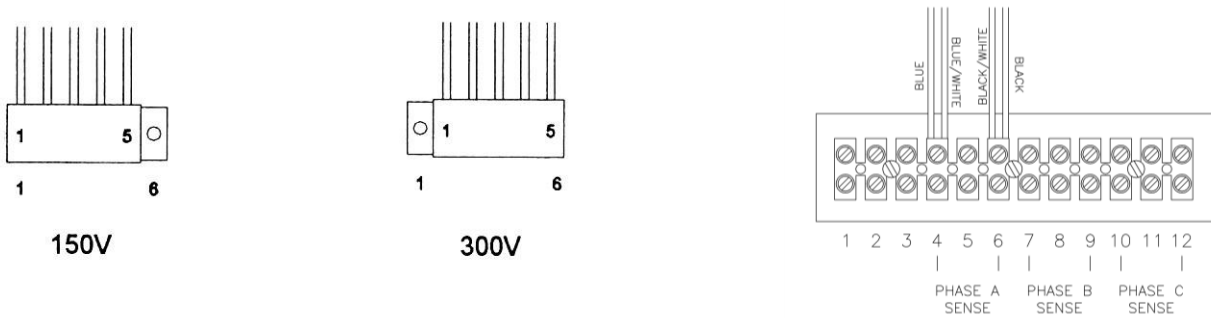

Figure 3
Connect VOLTAGE FEEDBACK SIGNAL sense channels to terminal strip as follows (Figure 3 or 4): Sense channel Phase A to positions 4 and 6, and if three phase option is used, sense channel Phase B to positions 7 and 9 and sense channel Phase C to positions 10 and 12 (#14 Awg wires max.).
If the 150 or 300 voltage range is selected, the blue/white and black/white leads from the sense transformers must be configured for each transformer respectively (see figure 3).
If the 150 voltage range is selected, place the 5 pin connectors to the left so that pin #1 of the connector matches up with pin #1 of the header on the board and pin #6 of the header on the board is not connected (see figure 3).
If the 300 voltage range is selected, place the 5 pin connectors to the right one (1) position so that pin #1 of the connector matches up with pin #2 of the header on the board and pin #1 of the header on the board is not connected (see figure 3).